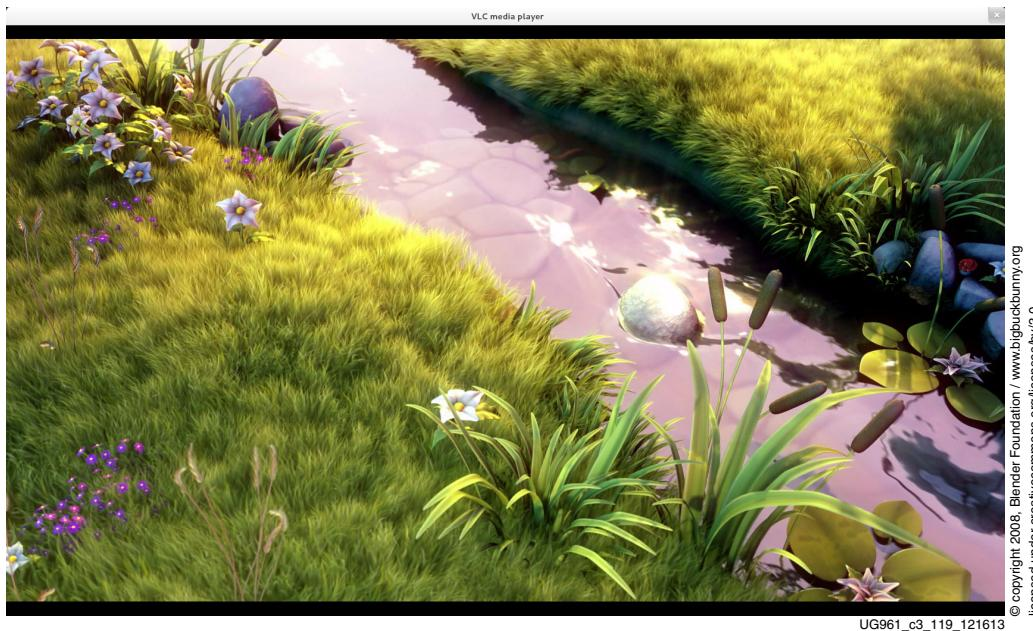
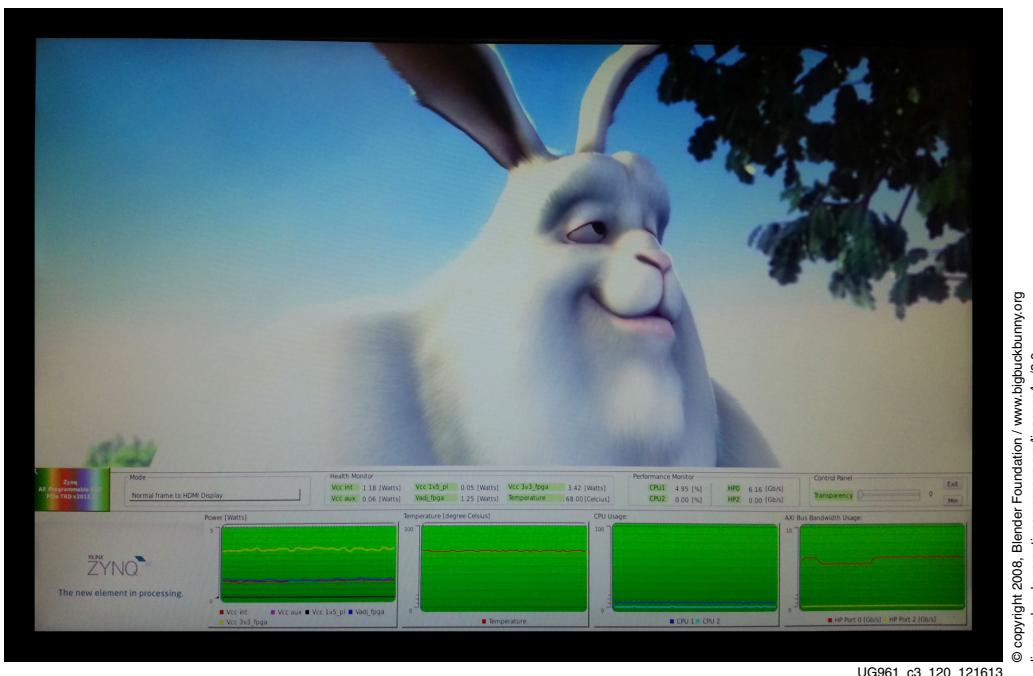
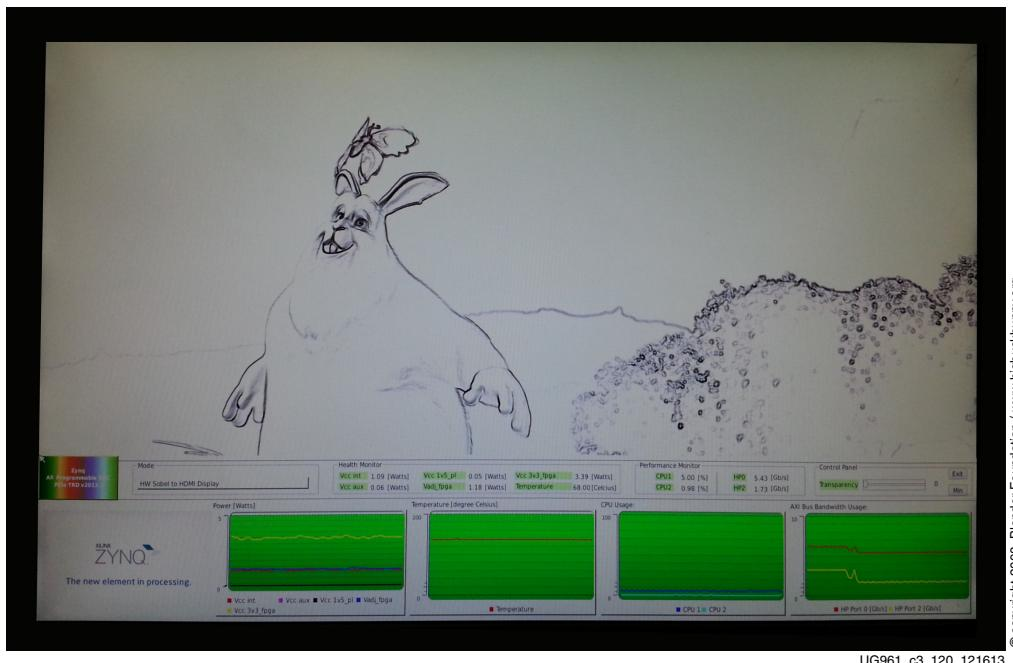

Figure 3-19: Video running on Host
Figure 3-20: Video running on HDMI Monitor with SOBEL set to None
Figure 3-21: Video running on HDMI Monitor with HW/SW SOBEL Filter
Note: The video file used in this example and shown in Figure 3-19, Figure 3-20, and Figure 3-21 is Big Buck Bunny, available for free download from www.bigbuckbunny.org.
The video being transmitted to the Zynq-7000 SOC is displayed on the host machine in its original form through a vlc player window as shown in Figure 3-19.
- When the filter option is set to **None**, video data from PCIe host system is sent directly to the display without being processed by the edge-detection sobel filter. The transmitted video appears on the display as shown in Figure 3-20.
14. When the filter option is set to **Sobel-HW**, video data from the PCIe host system is processed directly by the edge-detection Sobel filter in the PL based on **Max** and **Min** threshold values selected and provided through the host GUI, and then sent to the display. Edges of the objects appear on the display as shown in Figure 3-21 when the invert option is not selected (not checked). Checking the invert option will invert the display.
When the filter option is set to **Sobel-SW**, video data from the PCIe host system is directly processed by the edge-detection Sobel filter in the PS, then sent to the display as shown in Figure 3-21.